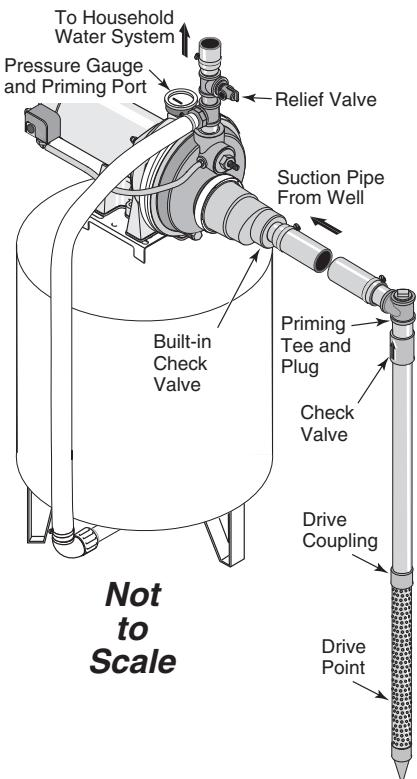

Figure 5 - Driven Point Installation
5. Use the fewest possible fittings (especially elbows) when connecting the pipe from the well point to the pump suction port. The suction pipe should be at least as large as the suction port on the pump (include a check valve – see Figure 5). Support the pipe so that there are no dips or sags in the pipe, so it doesn't strain the pump body, and so that it slopes slightly upward from the well to the pump (high spots can cause air pockets which can air lock the pump). Seal the suction pipe joints with PTFE pipe thread sealant tape or a PTFE-based pipe joint compound approved for use on PVC. Joints must be air- and water-tight. If the suction pipe can suck air, the pump cannot pull water from the well. If one well point does not supply enough water, consider connecting two or three well points to one suction pipe.